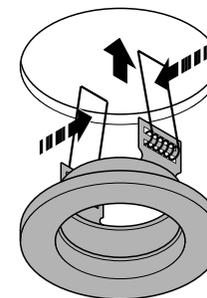

Fig. 2
- Press the springs together and place the lamp in the sawn out hole (see Figure 2).